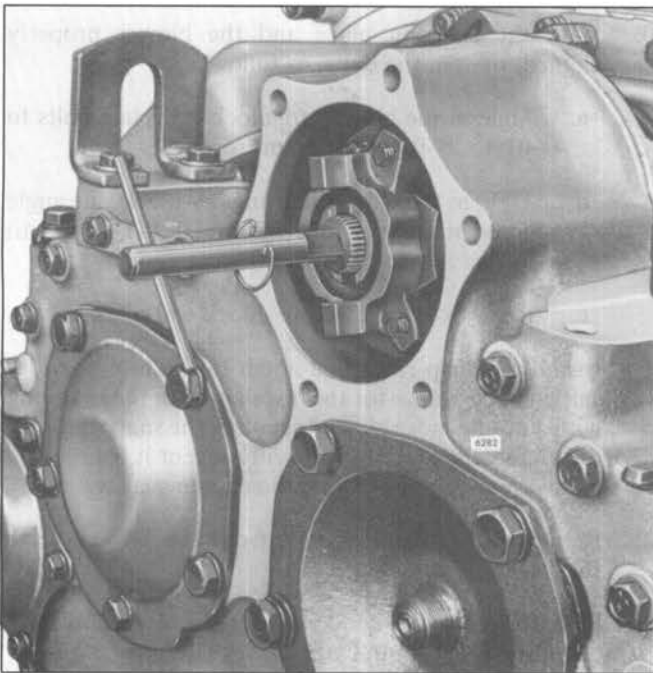

Fig. 27 – Aligning Blower with Tool J 33001
7. Slip the snap ring over the notched end of the alignment tool (J 33001) and thread the blower drive shaft onto the end. Install the alignment tool and position the blower so that the shaft can be removed and reinstalled easily without drag (Fig. 27).